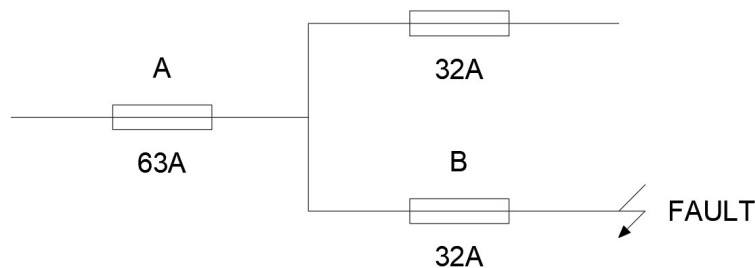

Figure 1 - System Layout with Fault
a) The fuses in Figure 1 are BS88 Type 2.
Discrimination is important in order for the protective devices to operate correctly in relation to each other in order to protect the rest of the circuit. Discrimination is the “coordination of automatic protection devices in such a manner that a fault appearing at a given point in a network is cleared by the protection device installed immediately upstream of the fault, and by that device alone.” (Schneider, 2024) Discrimination in **Figure 1** would ensure that fuse B disconnects and prevents Fuse A from tripping and therefore protects the rest of the circuit. Discrimination takes place when the protection device closest to the fault activates. If the B fuse trips and the A fuse doesn't then the system has discriminated correctly. If there was a lack of or no discrimination and the B fuse does not disconnect the circuit, the fault would cause the A fuse to trip, therefore losing the rest of the circuit and causing unwanted interruptions.